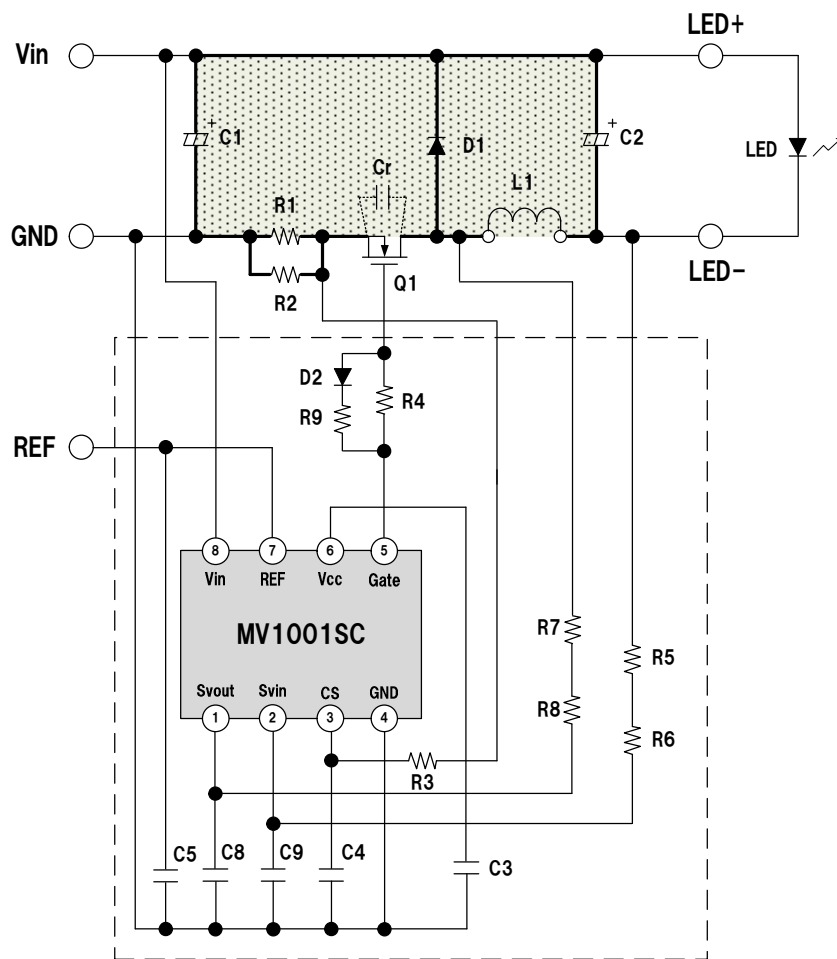

Figure 12 Circuit diagram accounting for pattern design
Figure 12 shows the same circuit shown in Figure 4, rewritten after accounting for pattern design. Consider the four items below for pattern design. Due to the potential for false detection, pay special attention to items 1 and 2.